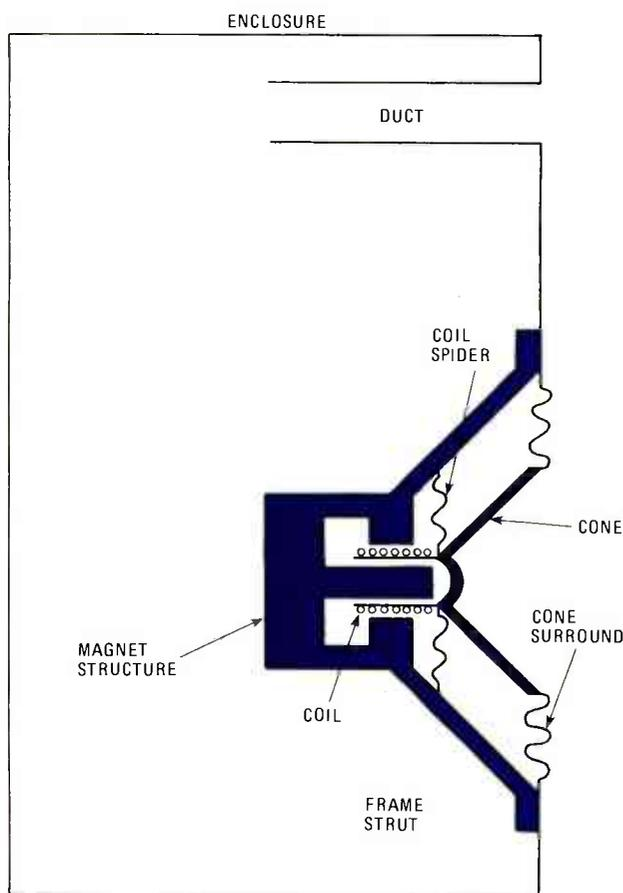

FIG. 1—CROSS SECTION of a dynamic woofer mounted in a ducted port enclosure.
■The most-complex system is the ducted port enclosure. The other systems can be thought of as simplifications of this type. Figure 1 shows a cross section of a dynamic loudspeaker mounted in a ducted port enclosure. When driven at low frequencies, the behaviour of this system is simpler than it is at higher frequencies. The cone moves as a single, rigid mass. All the air inside the duct moves in
FIG. 2.—MECHANICAL SYSTEM, equivalent at low frequencies, to the speaker shown in Fig. 1. Cone mass and the mass of air are assumed to move only in one direction, indicated by arrows. Coil applies oscillatory force to cone in this direction. Dampers are sources of mechanical resistance. One end of each damper and mounting spring has a fixed point of attachment.
FIG. 3—ELECTRICAL CIRCUIT analogous to systems in Figs. 1 and 2. Corresponding parameters are: R_1 = Coil resistance, C_1 = Mass of cone and co-moving air, L_1 = Compliance of cone mountings, G_2 = Mechanical resistance of cone mountings, G_3 = Radiation resistance of cone, L_2 = Compliance of enclosure volume, RP = Port (duct) radius, RS = Speaker radius, C_2 = Mass of air in duct and co-moving air, G_4 = Mechanical resistance, G_5 = Radiation resistance of duct.